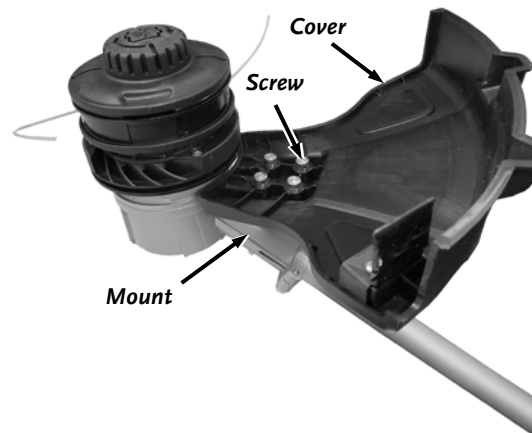

Figure 9
8. Turn the Trimmer Over. Set the Protective cover onto the Mounting Post and secure with four Screws using a 5mm Allen Wrench (**Figure 9**).